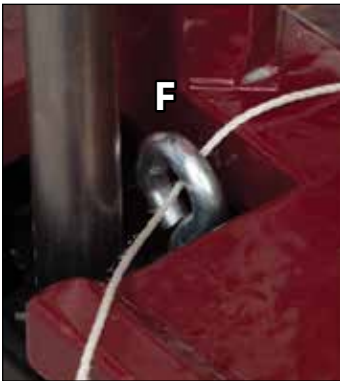

Figure 7
- 3) Run through Top Thread Eyelet **(F)**. **(Figure 7)**